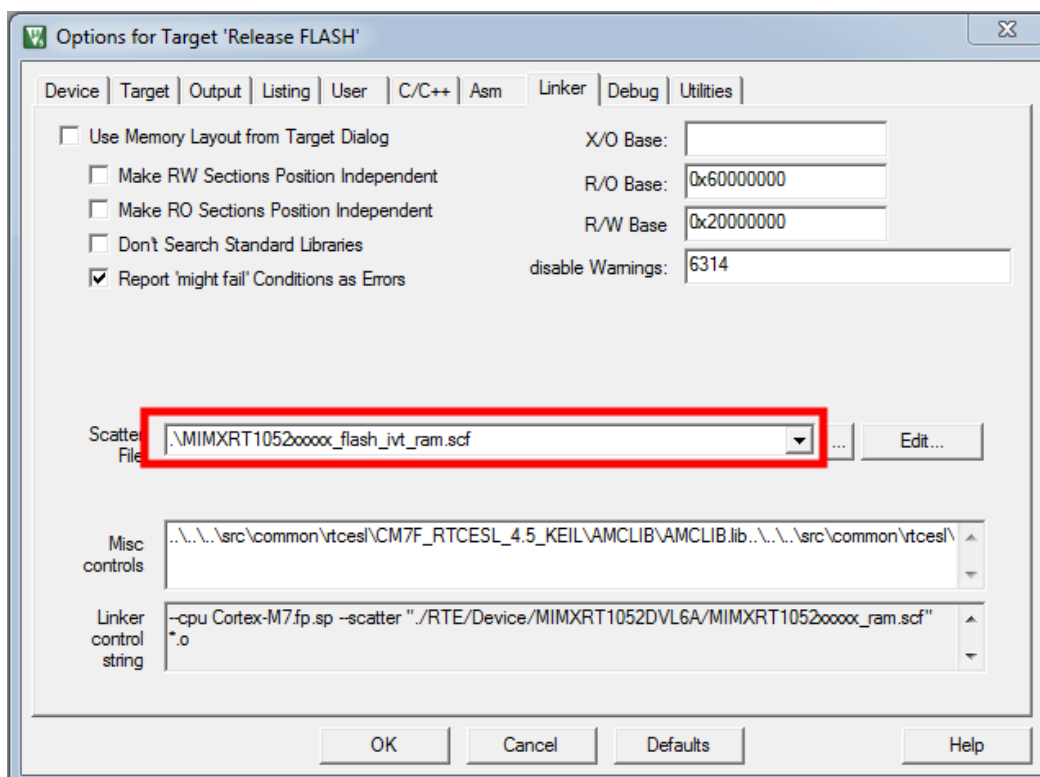

Figure 18. Keil linker settings
- Change the linker file path. Go to the “Project->Options for Target->Linker” tab. Find the “Scatter file” text box. Change its value to “.\\MIMXRT1052xxxxx_flash_ivt_ram.scf” (see Figure 18).